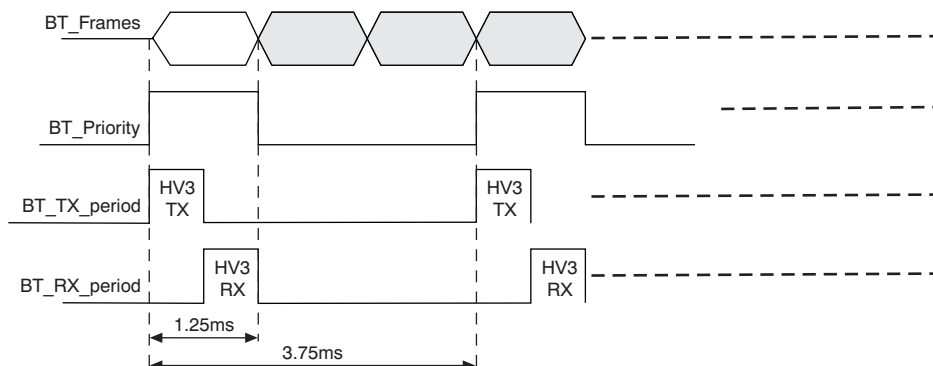
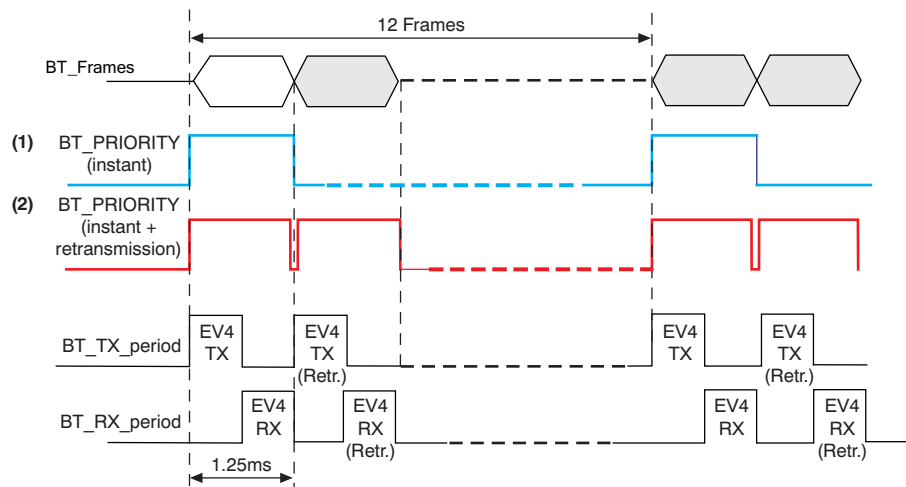

Figure 3. : Master BT SCO Channel: HV3 Packets
Figure 4. Master BT eSCO Channel: EV4 Packets
- The activity timing of BT_PRIORITY during Synchronous Connection Oriented Channels (SCO) (HV3) and extended SCO (eSCO) (EV4) packets are detailed in Figure 3 and Figure 4.
For the eSCO timing, it is possible to activate the BT_PRIORITY according to the instant eSCO (marked as **1**) or according to the entire eSCO cycle, including instant and retransmission (marked as **2**) in Figure 4.